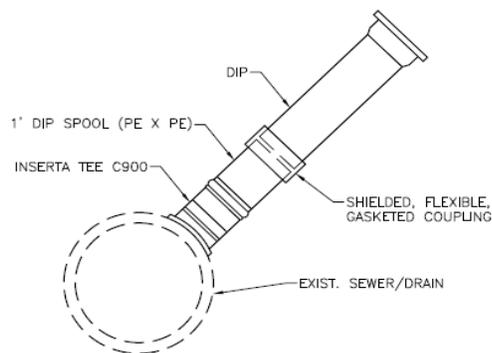

Figure 3 Ductile Iron Lateral Connection
- For ductile iron lateral pipe connections, insert a one-foot plain end stub or fitting in the bell end tee. Connect lateral pipe to the stub using a shielded flexible coupling. See Figure 3.